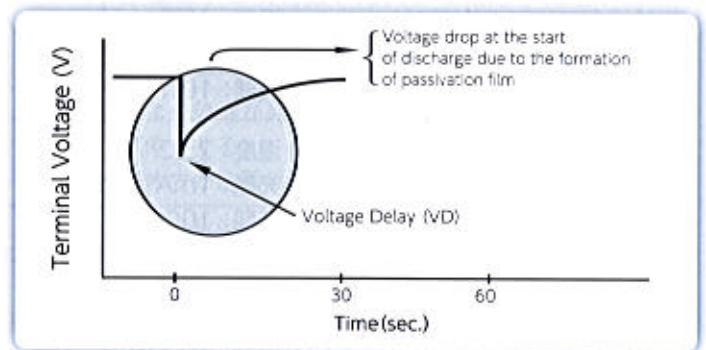

Fig. 1 Voltage Delay
- The self-discharge amount of Thionyl Chloride Lithium Batteries are very low. This is due to the passive film (lithium chloride film) formed on the surface of the negative electrode which allows long term storage. On the other hand, when load is applied to the battery, this passive film acts as resistance, creating a temporary voltage drop. Fig. 1